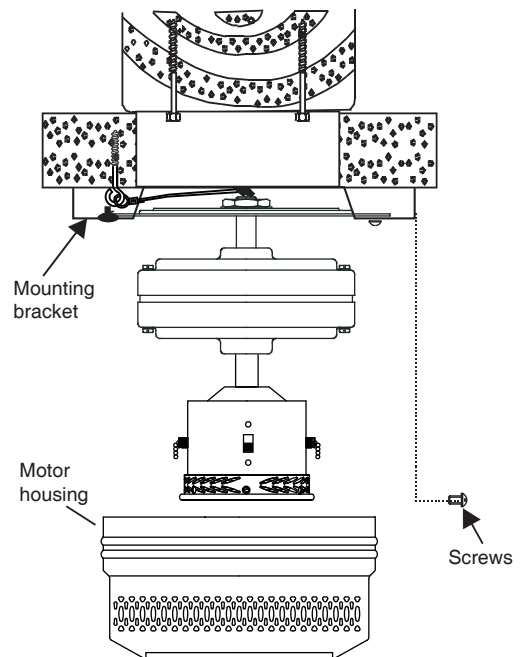

Fig. 8
3. Carefully lift the motor housing onto the mounting bracket, properly align the holes and secure the motor housing with the 4 motor housing screws supplied (see Fig. 8).